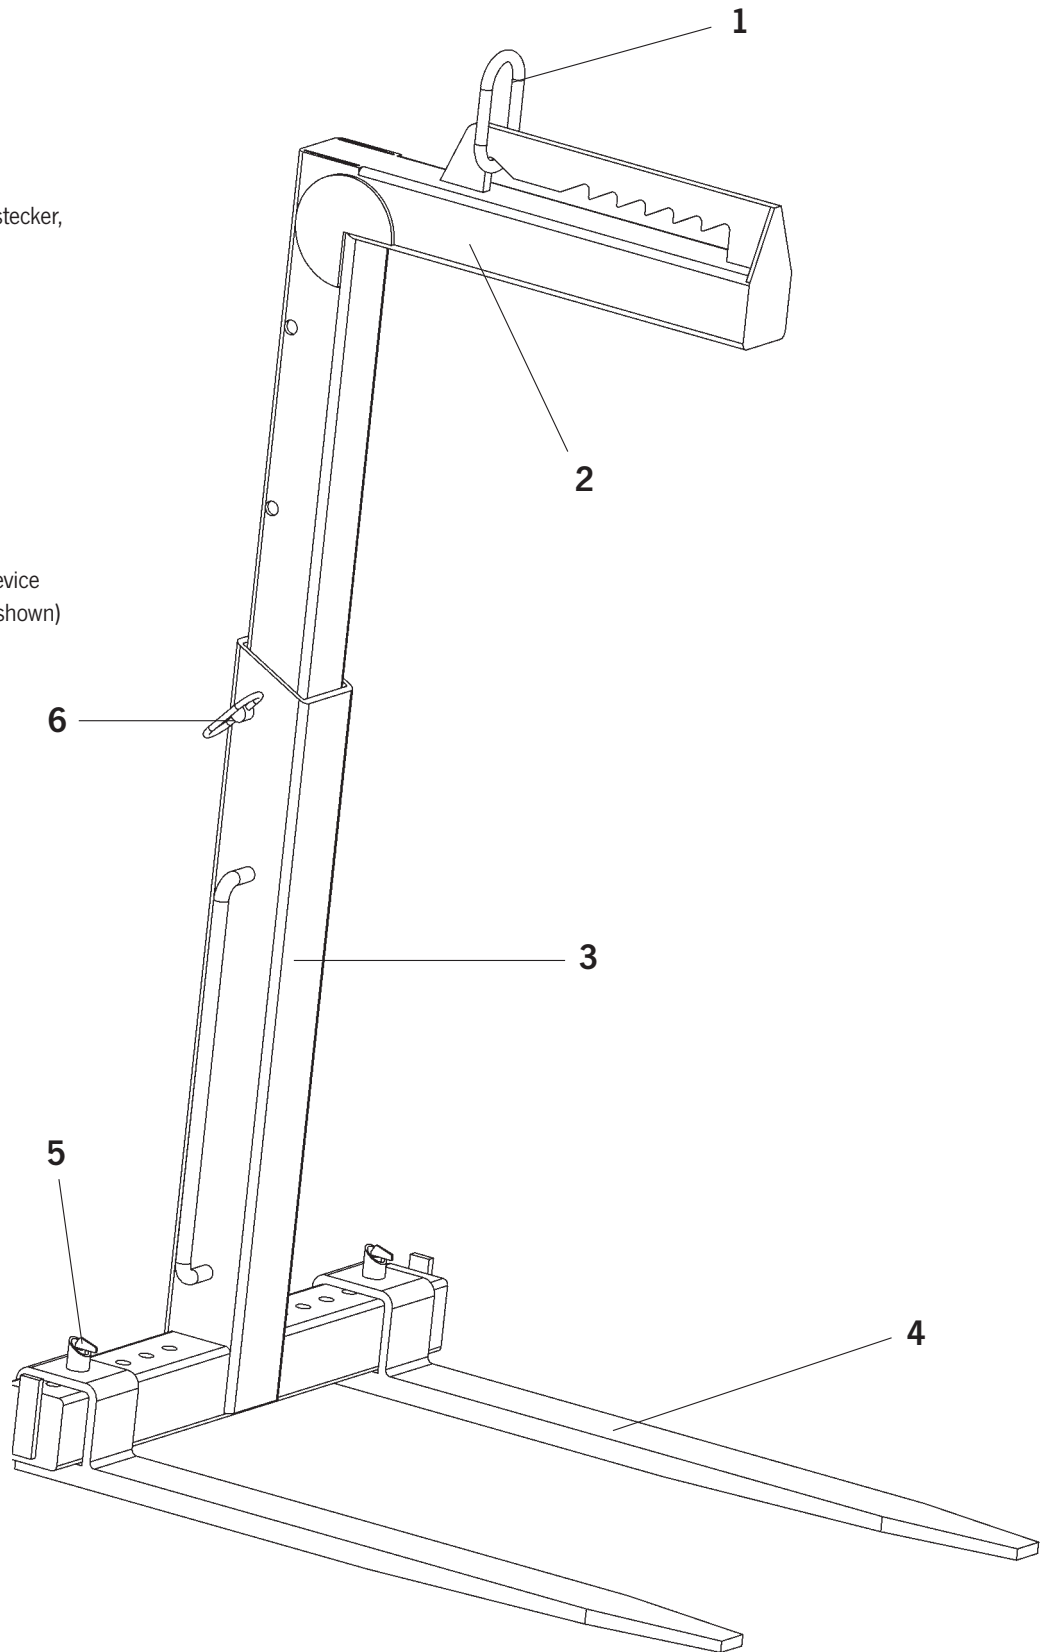

Fig. 3
- Observe correct position of the suspension lug (Fig. 3).
- Make sure that the socket pin (6) on the stationary frame is properly locked.
#### **USING THE CRANE FORKS (Fig. 3)**
#### **Height adjustment of the movable base frame (Fig. 3)**